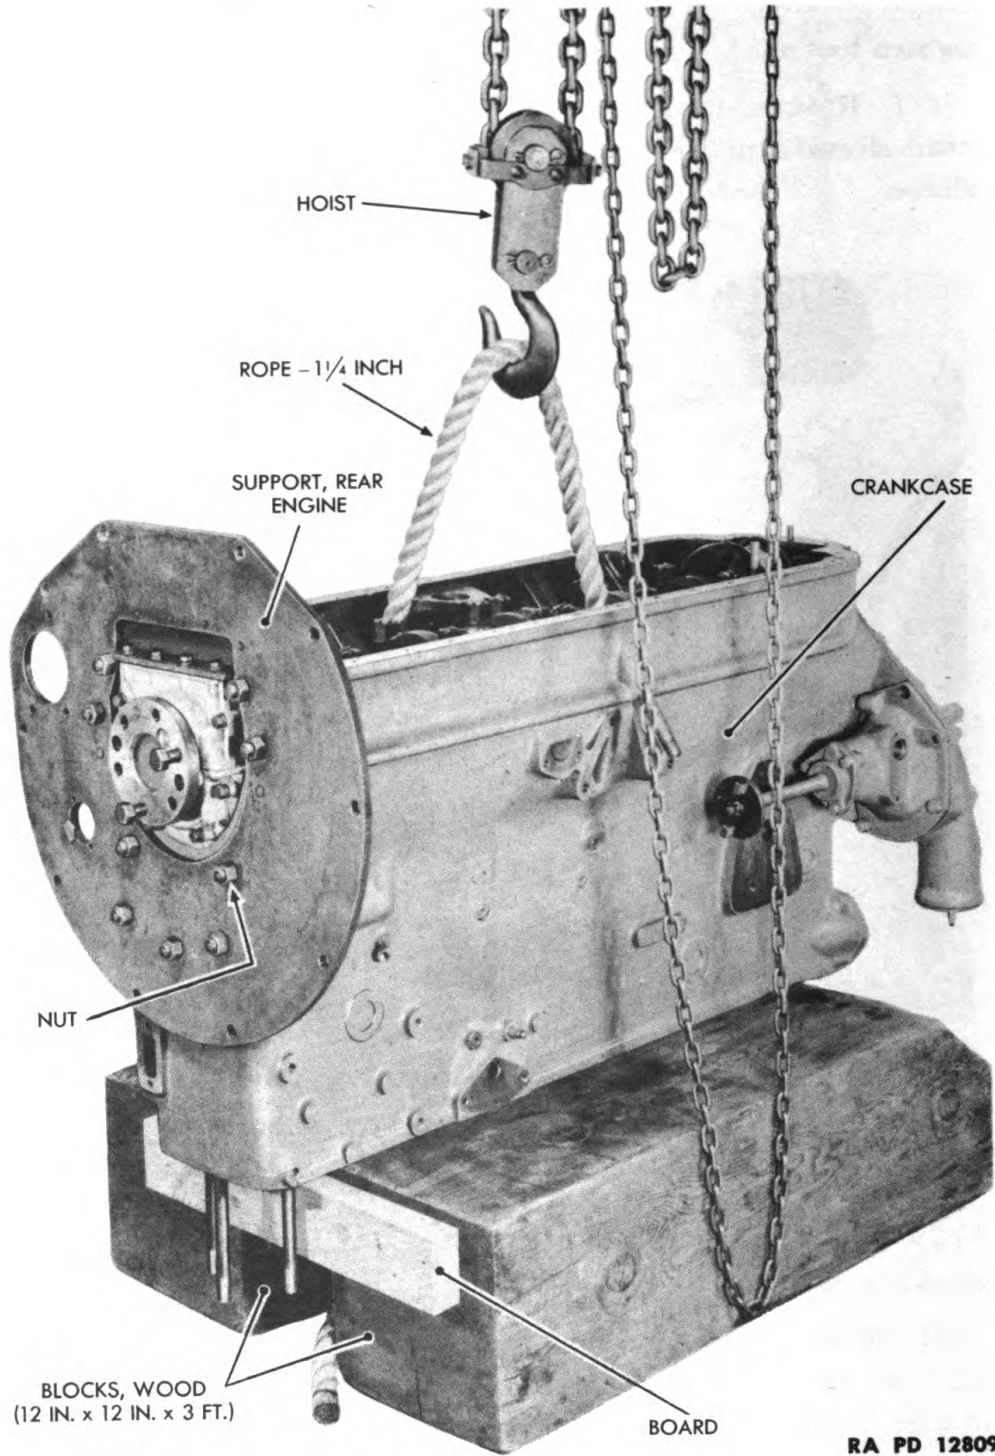

Figure 43—Crankcase in Inverted Position
(1) PLACE CRANKCASE AND ATTACHED PARTS IN INVERTED POSITION (fig. 43).